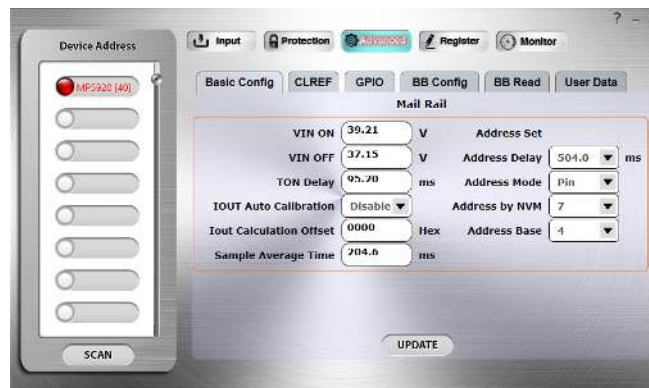

Figure 6: GUI Advanced Page, Basic Configuration Tab
- Basic Configuration:** Set the VIN on/off threshold, t_{ON} delay time, sample average time, and address selection (see Figure 6).